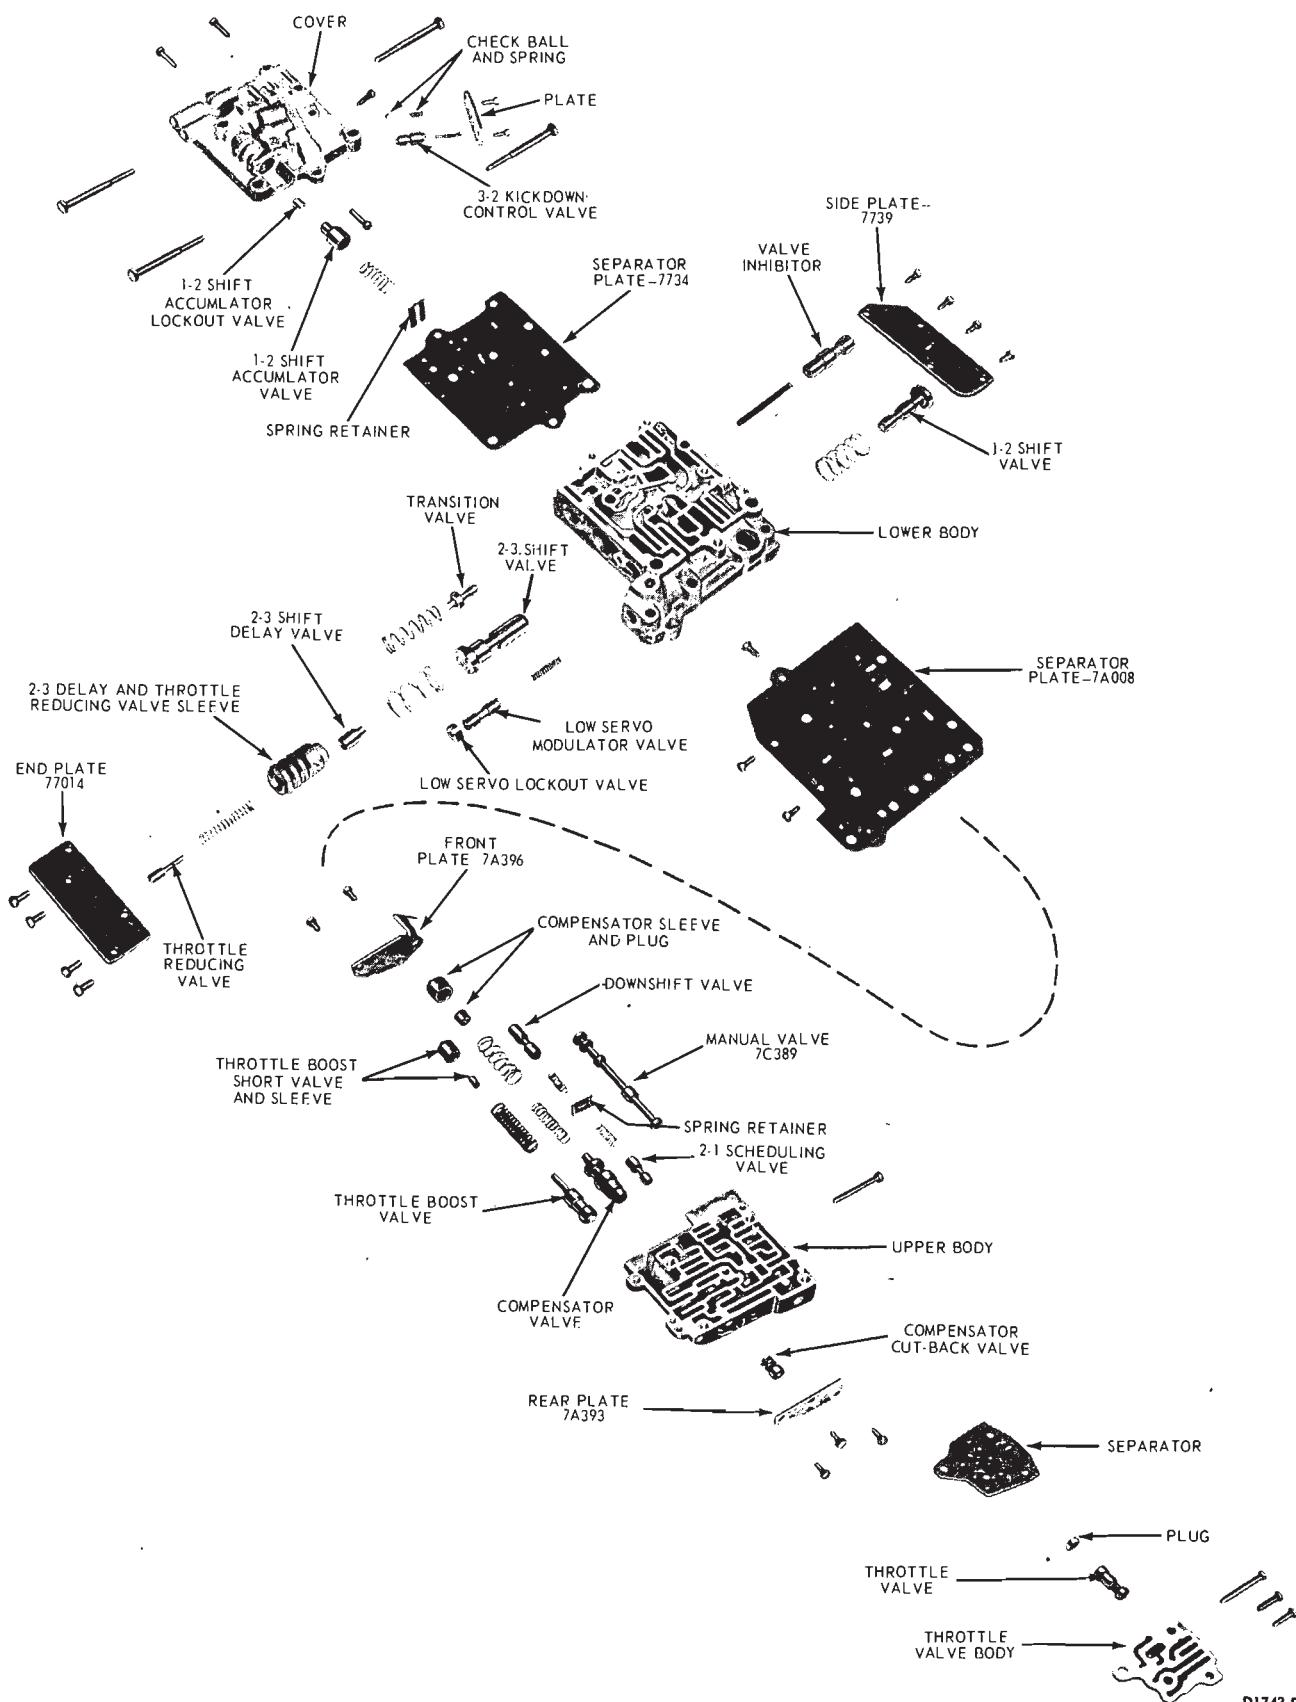

FIG. 47—Control Valve Disassembled
1. Remove the manual valve (Fig. 47).
9. Remove the lower body side plate (Fig. 47). **The plate is spring-loaded. Apply pressure to the plate while removing the attaching screws.**
15. Remove the plate (Fig. 47) from the valve body cover.
1. Arrange all parts in their correct positions (Fig. 47). Rotate the valves and plugs when inserting them in their bores to avoid shearing of soft body castings.